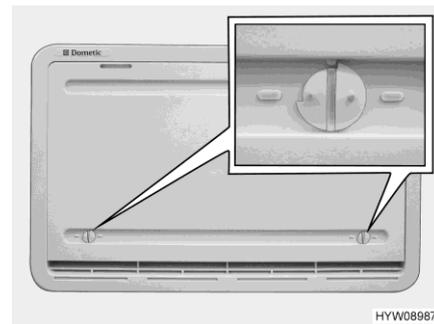

Fig. 121 Winter cover (refrigerator ventilation grill)
The winter covers (Fig. 121) protect the cooling unit against cold air. Place winter covers in front of both refrigerator ventilation grills when the external temperature falls below +10 °C (both for gas and electrical operation).
- Open both locks (Fig. 121) (groove in horizontal position).